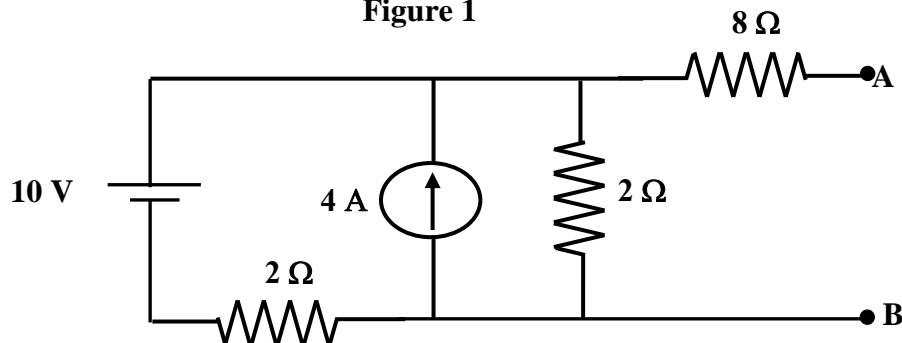

Figure 2
2. Find the equivalent voltage source between terminals AB for the circuit shown in Figure 2 using source conversion.